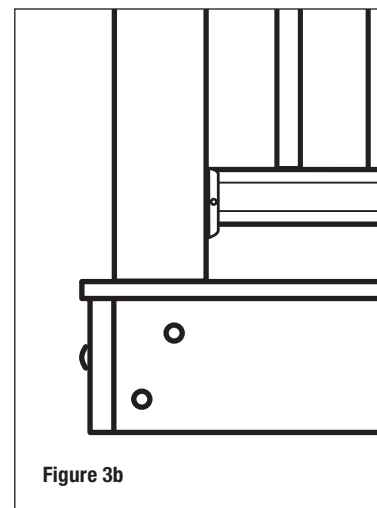

Figure 3b
Step 3 Position, plumb with a level, and clamp the rail post on the interior face of the joist. Plumb again. The 4x4 railing post should be bolted to the inside of the joists using two 1/2"x6" galvanized carriage bolts. Corner posts use a third carriage bolt inserted through the adjacent joist (**Figure 3b**).